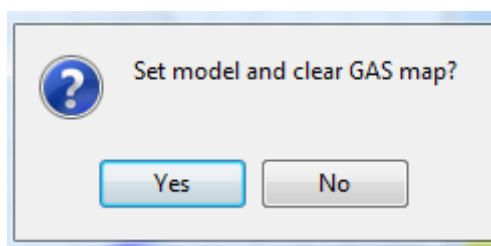

Fig. 3.45 A window confirming setting the model and deletion of the gas map.
8. After collecting petrol and gas maps click „Set model” button. Program will ask for confirmation of setting model and deleting gas map. (Fig. 3.45).